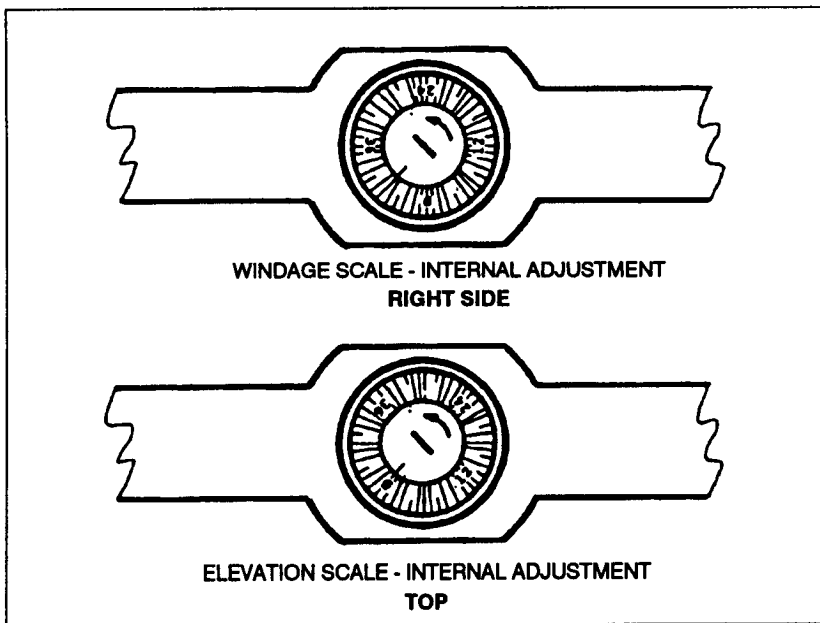

Figure B-10. Elevation and windage scales.
d. **Zeroing.** The ART scope should be zeroed at 300 meters. Ideally, this should be done on a known-distance range with bull's-eye-type targets. When zeroing the ART scope (Figure B-10), the sniper—
(1) Removes the elevation and windage caps from the scope.
(2) Turns the power adjustment ring to the lowest position. On the ART II scope, ensures that the locking thumbscrew is engaged and that the ballistic cam moves when the power ring is turned.
(3) Assumes a good prone-supported position that allows the natural point of aim to be centered on the target.
(4) Fires three rounds, using good marksmanship fundamentals with each shot.
(5) Makes the needed adjustments to the scope after placement of the rounds has been noted. He is sure to remember—